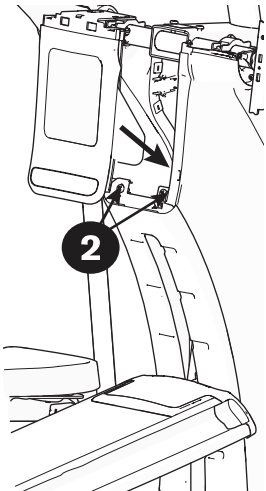

Figure 12
1. Attach the yoke cover to the back of the base mount using two screws **2** (Figure 12).